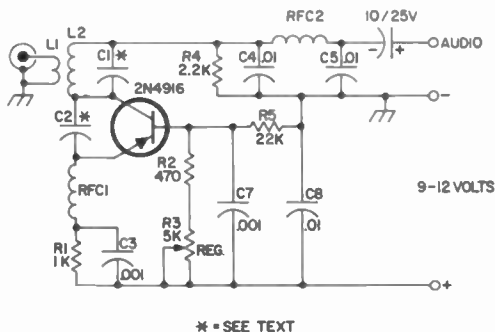

Fig. 7-41. Schematic diagram of the superregenerative receiver for the  $\frac{1}{4}$  meter band.
**T**his chapter describes a simple transistorized UHF super-regenerative receiver which works nicely at 420–450 MHz. This circuit (Fig. 7-41) provides exceptional sensitivity. If your hearing is good, you may connect a pair of earphones directly to the circuit, although the level of audio is quite low. The more ambitious may, of course, build up a small audio amplifier, borrow one from an old transistor radio, or use an RCA CA3020 integrated circuit audio amplifier.